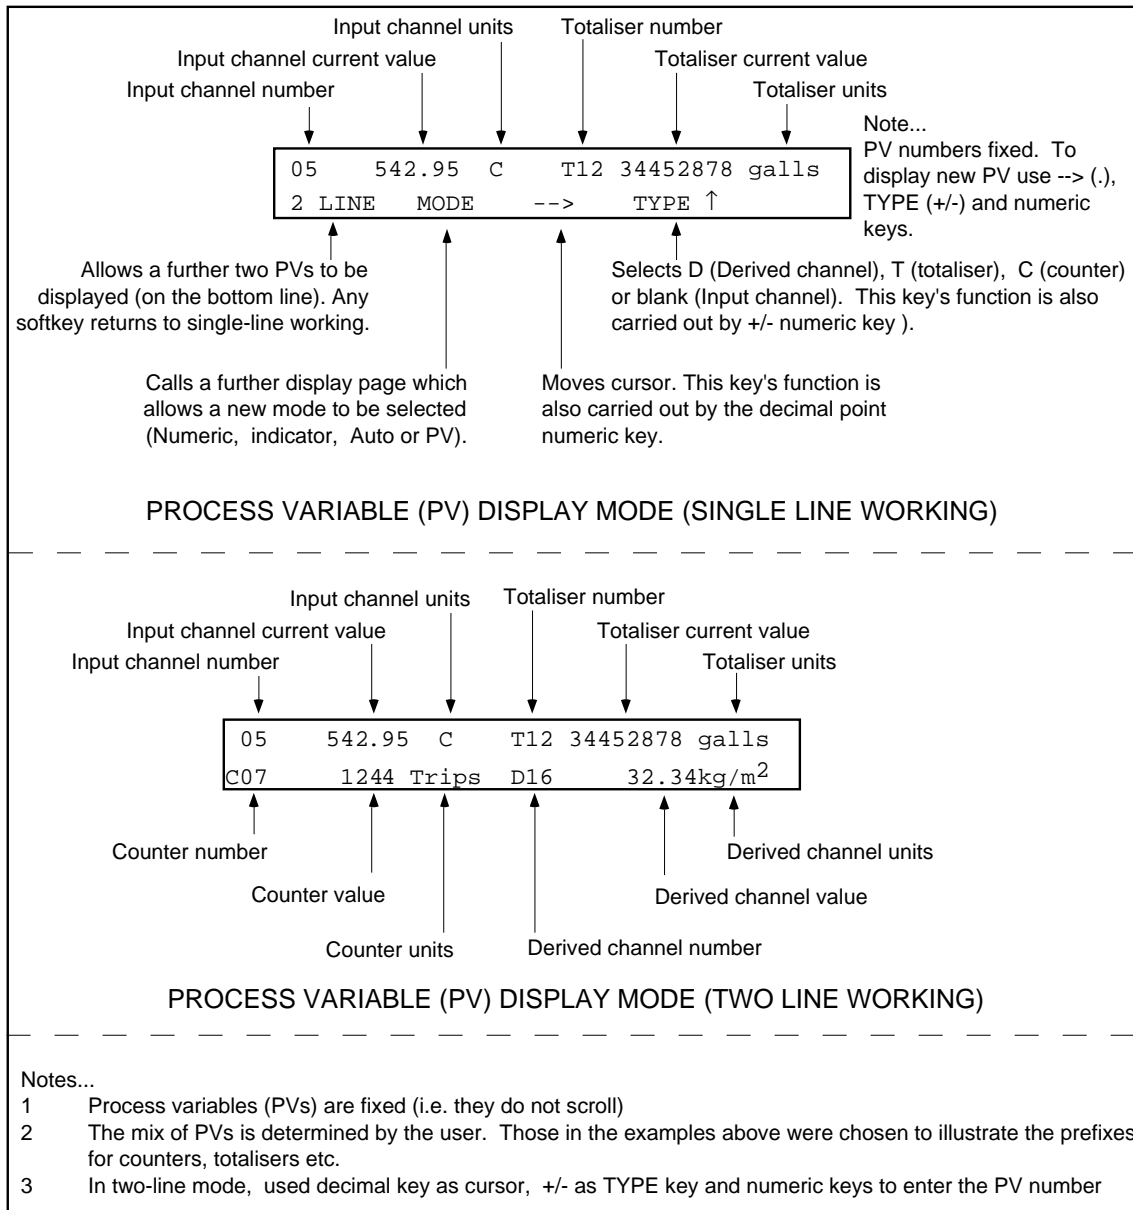

Figure 3.2.1c PV display modes
- PV Select** Allows up to 4 process variables to be selected for continuous display, independently of Group organisation. The display can contain either two or four PVs as shown in figure 3.2.1c.